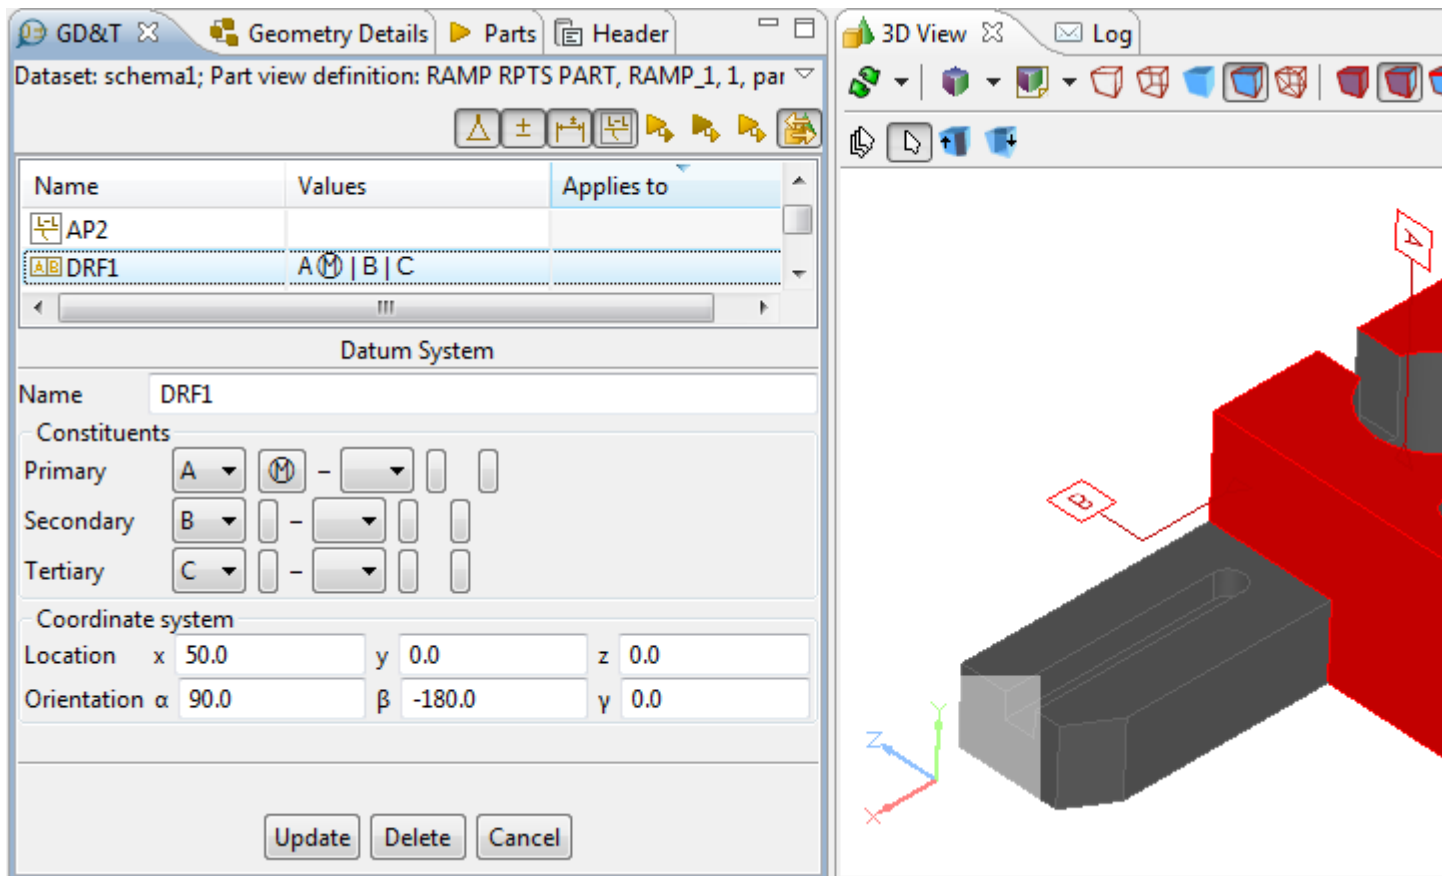

Figure 1. Selected datum system entry in GD&T view is highlighted in 3D view (all included datums are highlighted)
- After the creation, a new entry of the datum system appears in the **GD&T** view table. Press on the datum system entry to view presentation in the **3D View** (see Figure 1).